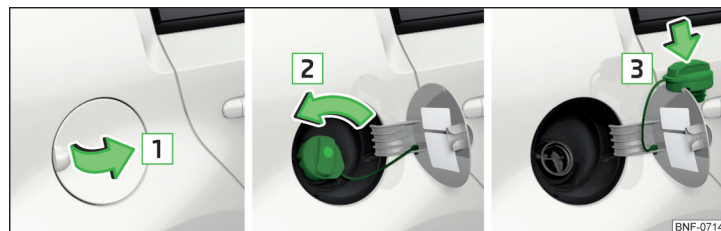

Fig. 103 Opening the fuel filler flap / unscrewing the tank cap / placing the tank cap on the fuel filler flap
- Open out the fuel filler flap in the direction of arrow 1 » Fig. 103.